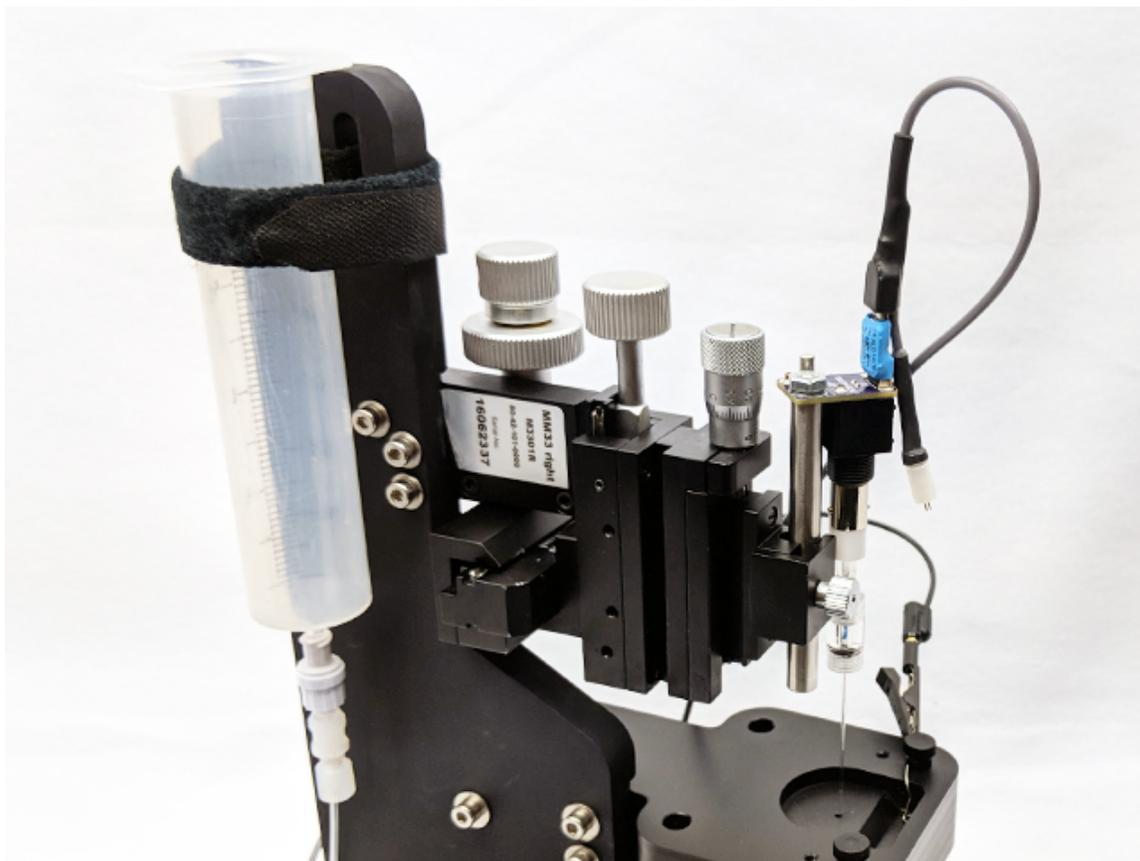

Figure 4-9. Fully Installed CFME in Using Malli Adapter in Micromanipulator
8. Slowly lower the electrode by turning the z-axis knob until the electrode is just above the solution delivery hole. At this point, the CFME should be centered above the solution delivery hole and a short distance ($< 3\text{mm}$) from making contact with the flowing run buffer (see: Figure 4-9).